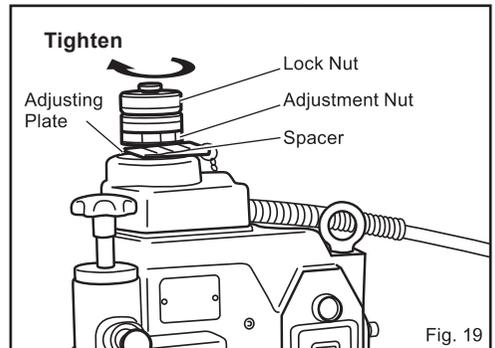

Fig. 19
3. Adjustment of groove depth (Fig. 19)